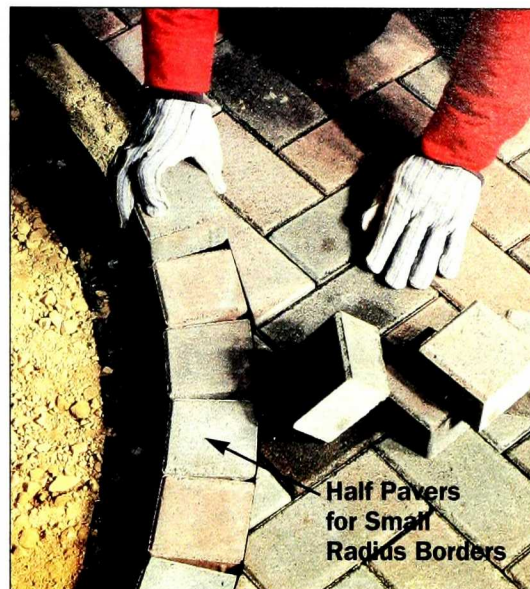

Figure 12: Use half pavers for bordering tight circles. Smaller pavers cut down on the size of the pie-shaped gaps between each piece.
- Using a paver as a guide, mark the inner pavers, remove them, and cut them on a masonry saw, then reinstall the cut inner piece and the border piece. On tight radius circles follow the same procedure, but use half pavers for the border to avoid large, pie-shaped voids between them (Figure 12).